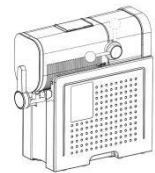

Fig.4
5. Lock the vessel in place by pushing down the knob (Fig.4).